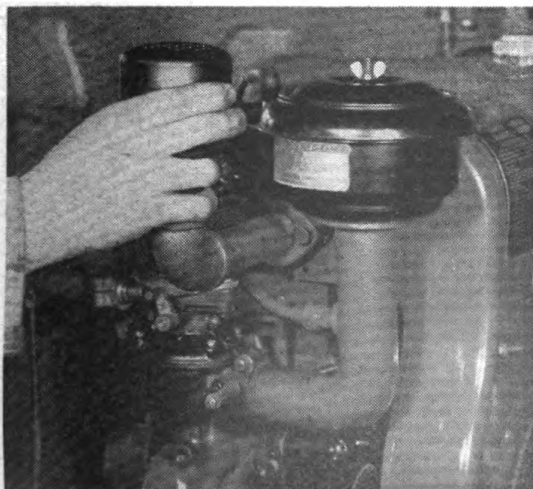

Figure 7
2. To heat the lubricant tank during cold weather, remove the engine exhaust muffler (See Figure 7) and install asbestos covered flexible tubing leading from the exhaust elbow to the tank heating chamber. First screw tubing into engine exhaust elbow,